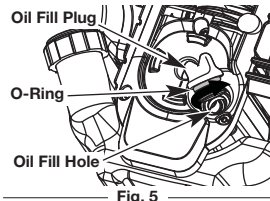

Fig. 5
3. Remove the oil fill plug from the crankcase (Fig. 5).
4. Pour the entire bottle of oil into the oil fill hole (Fig. 5).